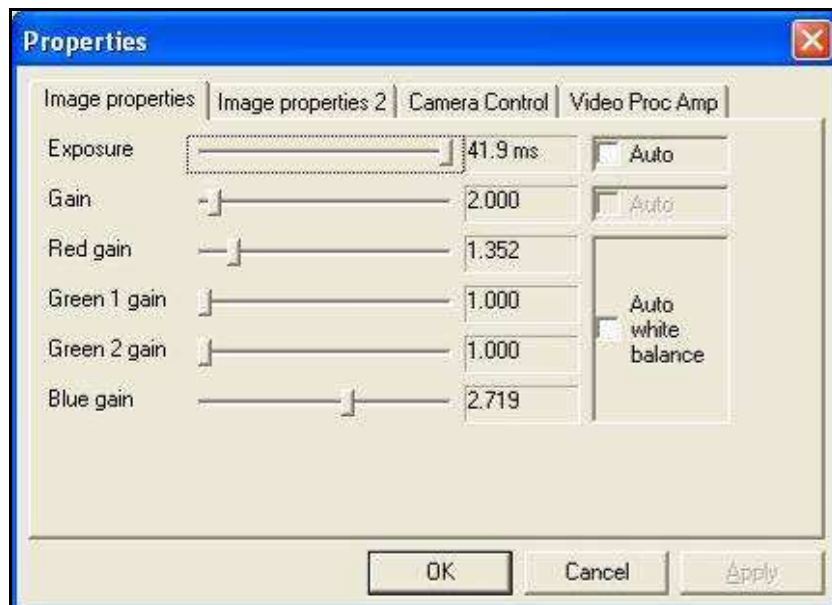

Fig. D. 4 – Camera properties
- **Display camera properties:** clicking this button before starting the acquisition, the user can edit and set all the parameters of the camera in the following window (Fig. D. 4). Here the user can set manually